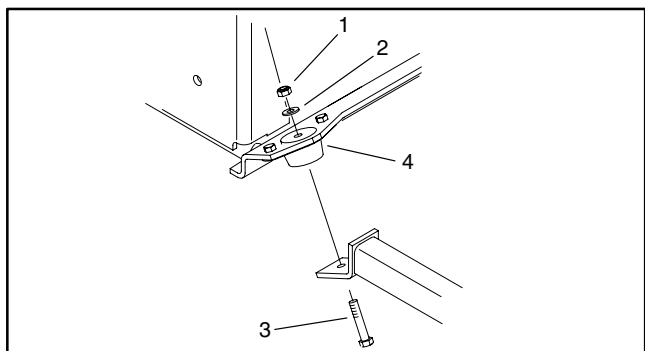

Figure 38
- B. Remove lock nuts, flat washers, and cap screws securing both **front** engine mounts to the frame (Fig. 38).
- A. Use jack or chain fall to position the front engine mounts and engine support to the frame (Fig. 38 and 39).
- C. Secure front engine mounts to the frame with both cap screws, flat washers, and lock nuts (Fig. 38).